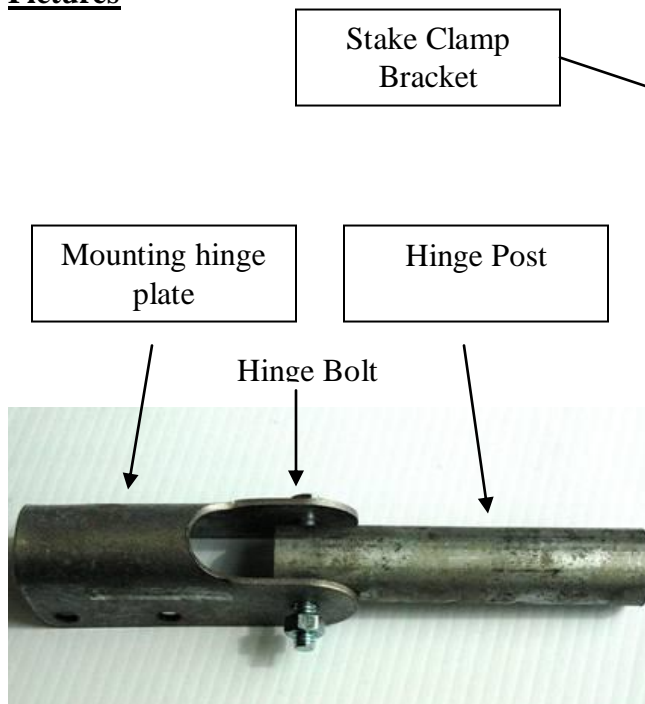

Figure 1 (Hinge Assembly)
- 2) Insert the hinge bolt into the two piece pivot hinge. Do not completely tighten the upper hinge bolt yet. (See Figure 1).